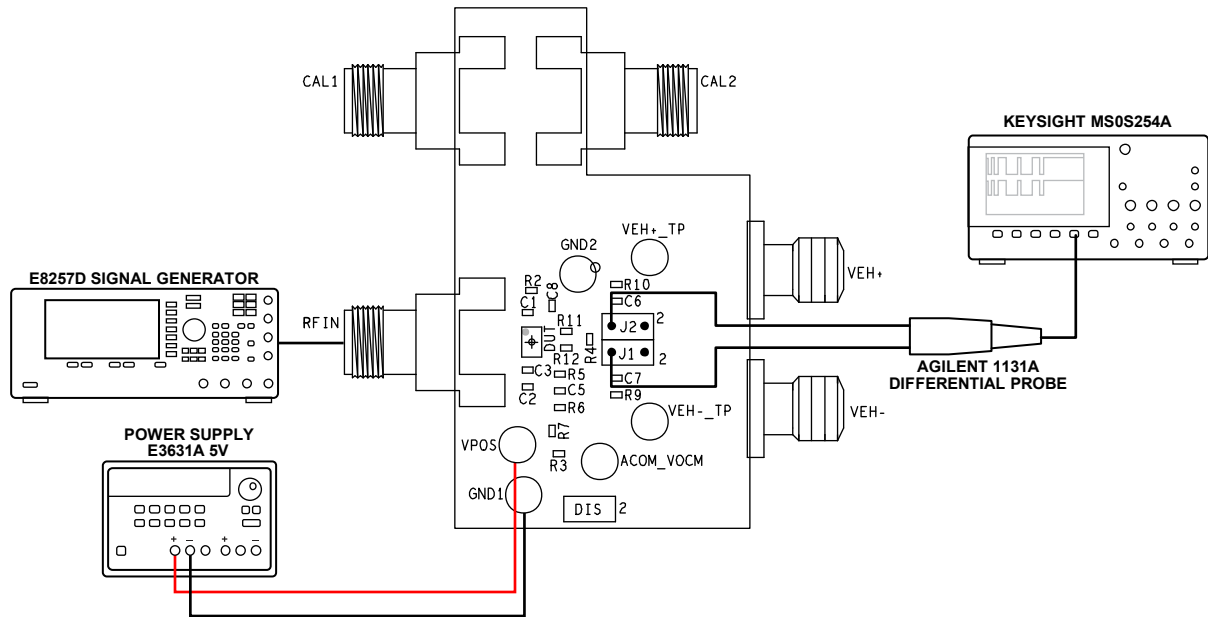
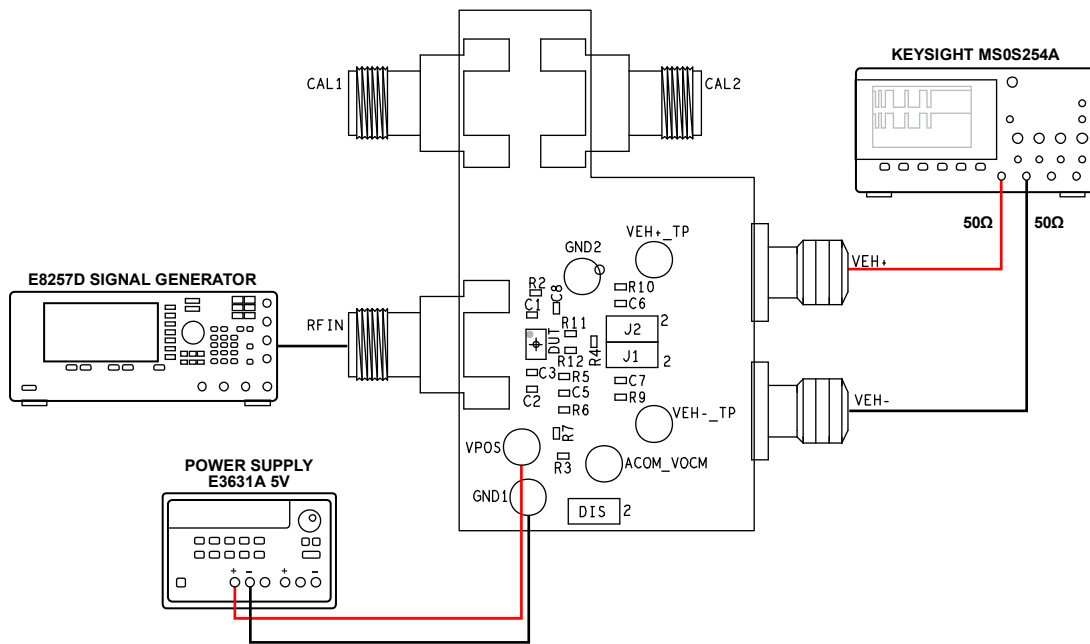

Figure 3. ADL6012 Envelope Measurement Using Differential Probe
Figure 4. Differential Envelope Output Measurement for AM or Pulsed RF Response
The Keysight MSOS254A high speed oscilloscope is acceptable to use to accurately measure the rise and fall times of the ADL6012. The Keysight MSOS254A oscilloscope must have a bandwidth of 2 GHz or higher to accurately measure the ADL6012 output response. The amplitude modulation (AM) signal and the pulse modulated RF signal can be measured with a differential probe at the envelope outputs with the high speed oscilloscope (see Figure 3). The Agilent 1331A differential probe is acceptable to use. If a differential probe is not available, connect the VEH– and VEH+ Subminiature Version A (SMA) connectors to the Keysight MSOS254A oscilloscope with 50 Ω , impedance controlled RF cables terminated with 50 Ω at the oscilloscope inputs (see Figure 4). Ensure that both RF cables are less than 2 inches in length to minimize reflections.
For high speed pulse response measurements, use the Agilent 1131A differential probe to measure the envelope output response. See Figure 3 for the measurement points used to make the connections to the ADL6012-EVALZ. The ADL6012 is designed to drive a 100 Ω differential load. Place a 100 Ω resistor (R4) on the ADL6012-EVALZ to evaluate the ADL6012 output response to the differential load. Each envelope output has a common-mode voltage of 2.5 V with the VPOS voltage at 5 V.
For AM output response measurements, the envelope outputs can be connected to the Keysight MSOS254A oscilloscope with a 50 Ω termination on each envelope output (see Figure 4). Each envelope output on VEH+ and VEH- is ac-coupled on the ADL6012-EVALZ. Use 50 Ω cables to connect the ADL6012-EVALZ to the Keysight MSOS254A oscilloscope. Keep the output cables as short as possible and at equal lengths to minimize reflections from the load. Both the positive peaks and negative peaks of the envelope are measured on each oscilloscope channel.